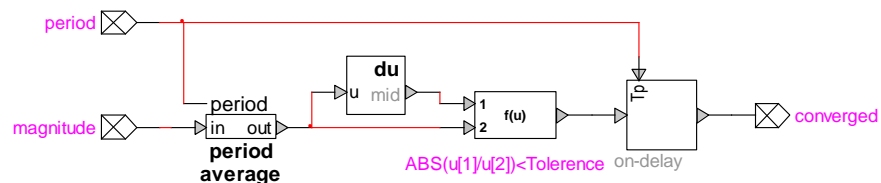

Figure 1 Impedance magnitude convergence detection
- **Tolerance** The impedance identification is validated when the magnitude and angle variations calculated by the DFT are lower than this **Tolerance**. A simplified version of the scheme detecting the magnitude convergence is shown Figure 1. The magnitude is averaged over a cycle. If the magnitude derivative is lower than the **Tolerance** specified for at least 1 cycle, there is convergence. The same scheme applies to the impedance angle convergence. Both magnitude and angle convergence must be achieved.